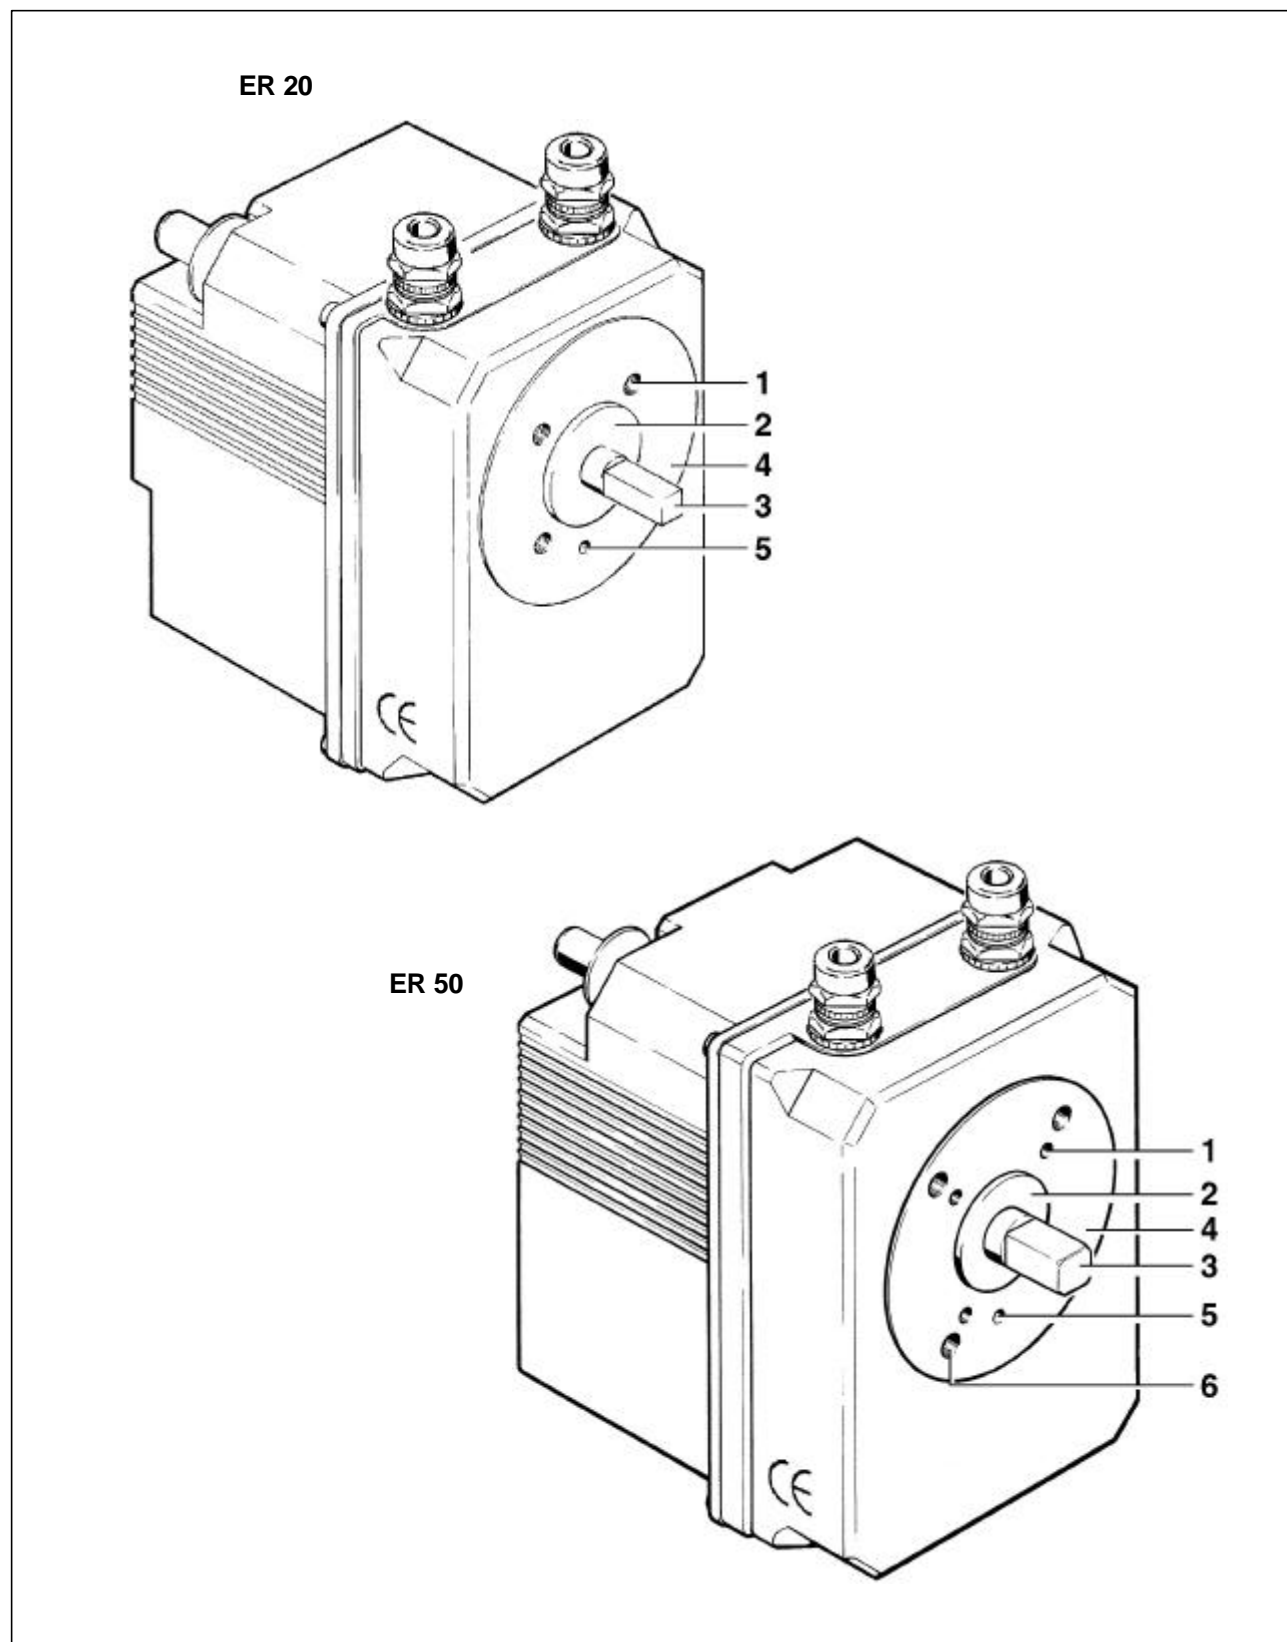

Fig. 8-1 Position controller ER 20/ER 50 - rear view
- Unscrew the four fastening screws of the position controller and pull the position controller from the mounting position. For this, see Figure 8-1.